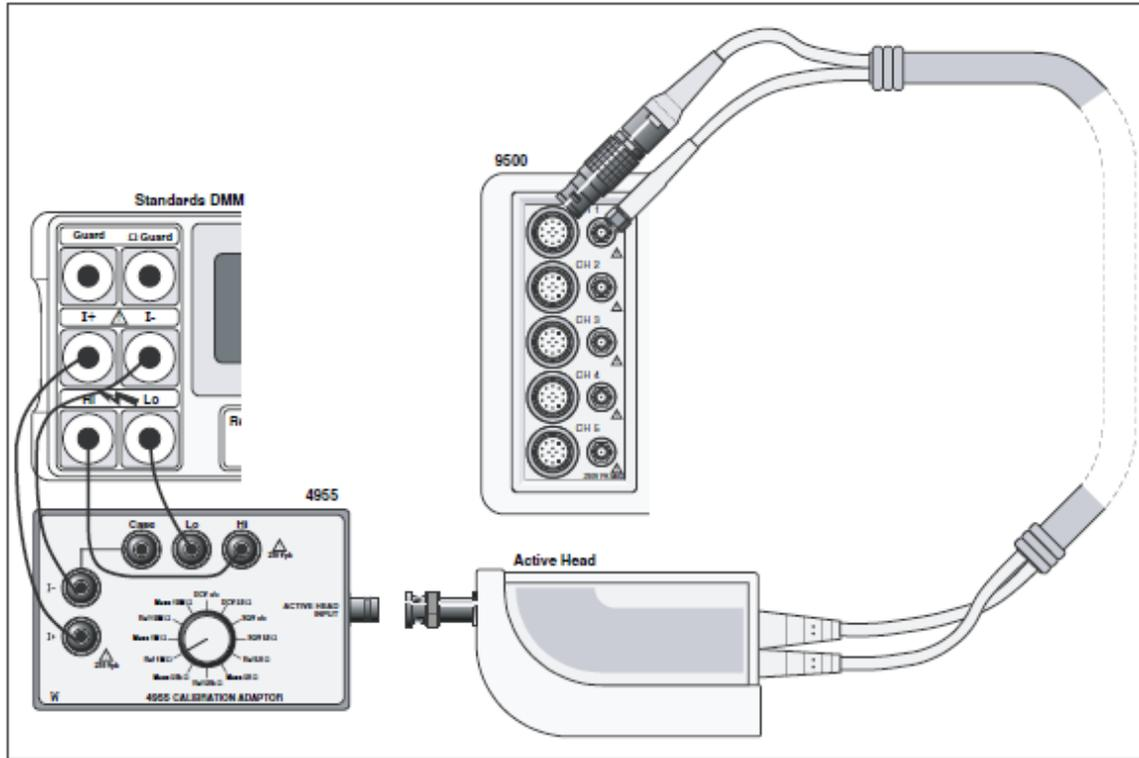

Figure 7. Load Resistance Measurement Function Verification (1Ω Ref) — Interconnections
1. Connections: Ensure that the 9500B is connected to the Standards DMM as shown in Figure 7, or via a similar BNC-4 mm adaptor and 50 Ω load, and that both instruments are powered on and warmed up.